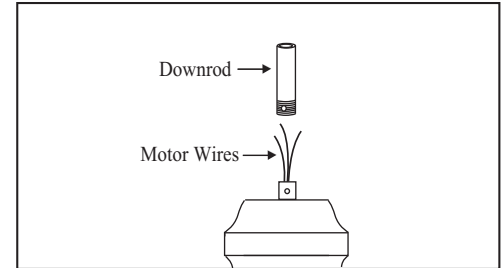

Figure 8
5. Carefully feed motor wires up through the downrod. Thread the rod into the coupling. Next line up holes and replace cotter pin and clevis pin. Tighten set screws. (Figure 8)